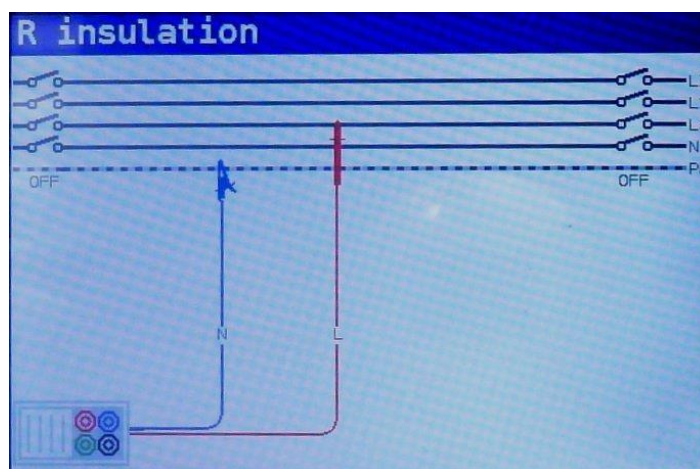

Figure 5-2: Connection of universal test cable
Step 3 Ensure that no voltages are present on the item for testing. Connect the test leads to the NOVA instrument. Connect the test cables to the item under test. (see figure 5.2) to perform insulation resistance measurement.